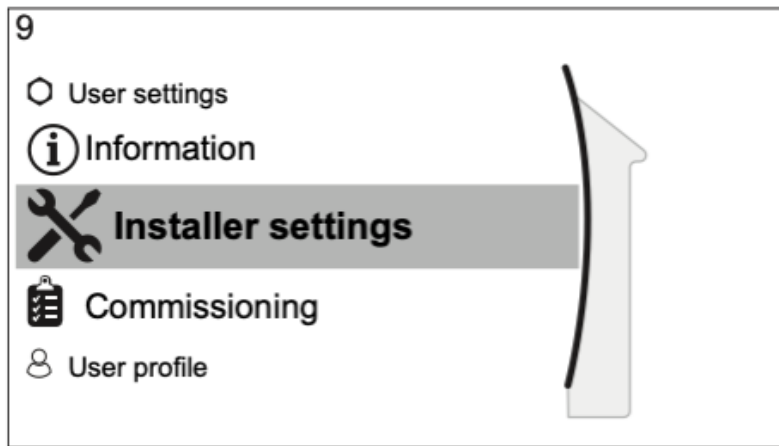

figure 8
- Go to “Installer Settings” (figure 8).